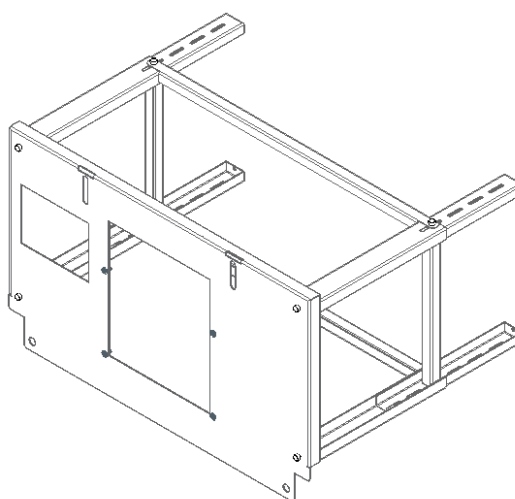

Figure 4 - Auxiliary table assembly
3. The process should be repeated for the other three legs, Figure 4.